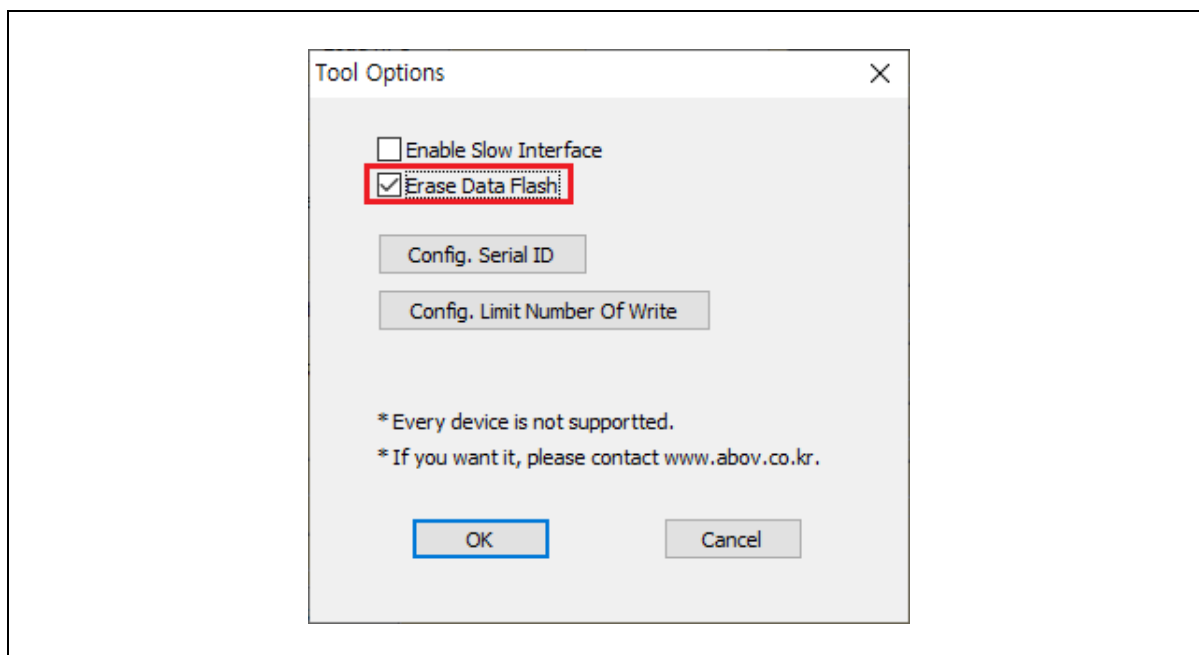

Figure 31. Tool Options: Erase Data Flash
- ⑭ The 'Tool Options' button erases Data Flash. If users select the 'Erase Data Flash' in Figure 31, the Data Flash is erased during write-sequence. Supported devices are A33G527 and A33G526.